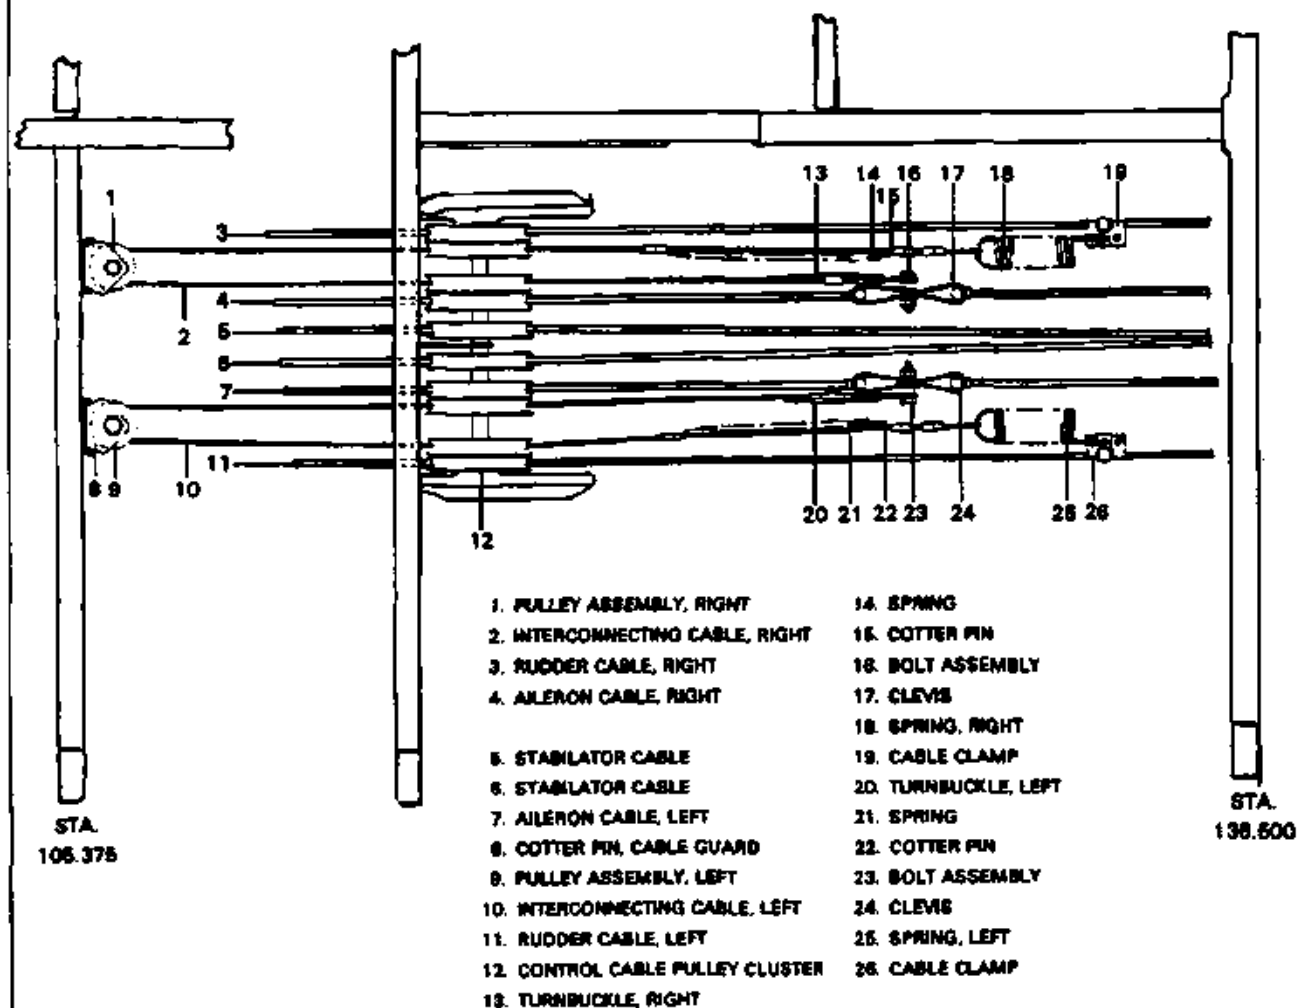
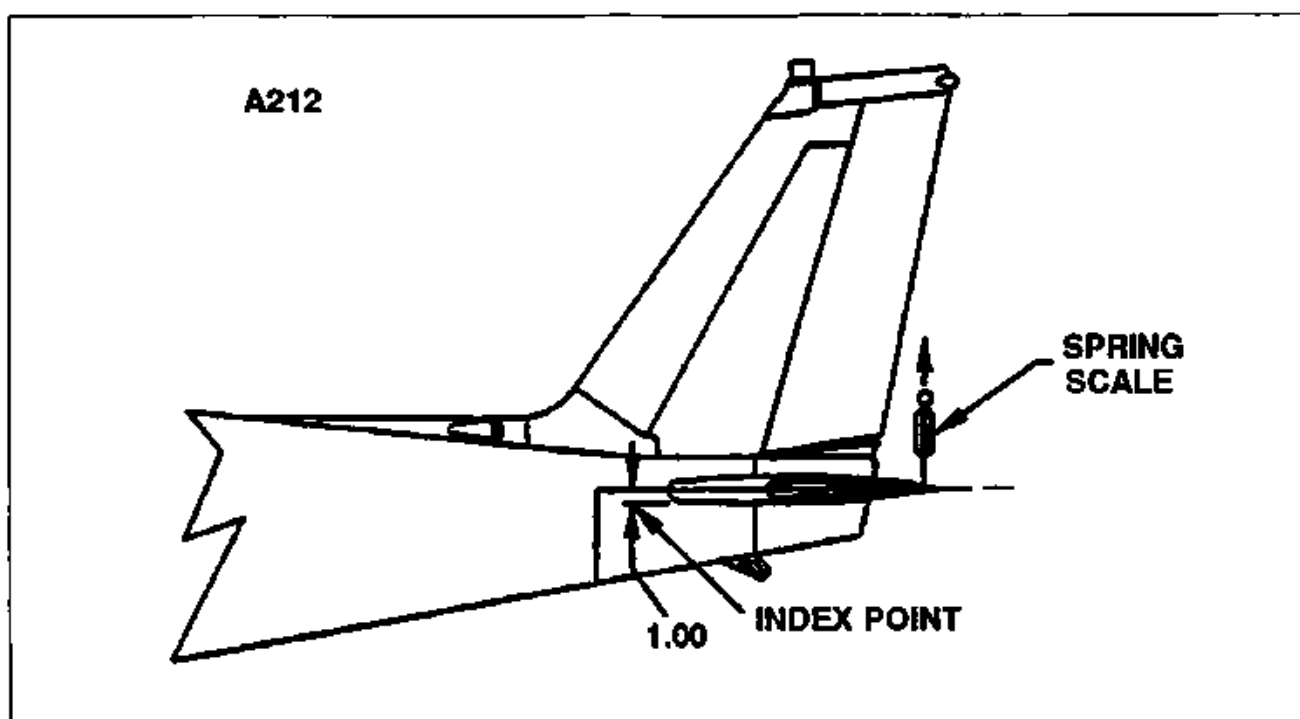

Figure 5-2. Interconnecting Control Cable Installation
Figure 5-3. Checking Stabilator Friction
**5-2. ADJUSTMENT OF INTERCONNECTING CONTROL CABLES.** (Refer to Figure 5-2.) Adjust the interconnecting control cables, located under the cabin floor to the left of the flap transmission between stations 105.375 and 136.500 by the following procedure:
- f. Adjust the interconnecting cable turnbuckles (13) and (20) so the springs (18) and (25) have 0.06 inch extension with ailerons and rudder in neutral positioning.
- g. If necessary the left interconnecting spring (25) extension may be increased up to a maximum of 0.38 inch to allow the aileron controls to spring back to neutral approximately equal amounts from the right and left stops with the rudder controls held in the neutral position.
**5-3. CHECKING STABILATOR FRICTIONAL RESISTANCE.** (Refer to Figure 5-3.)